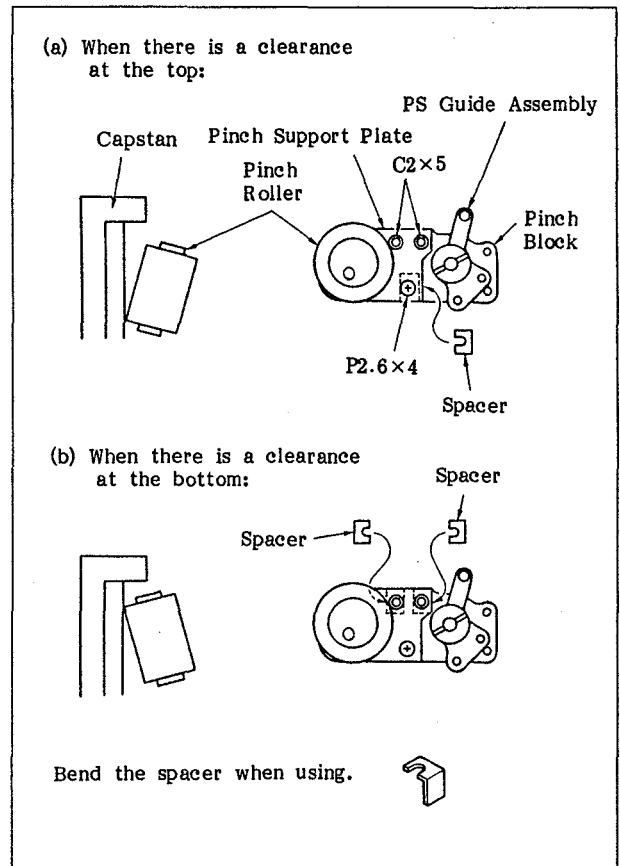

Fig. 6-92 Adjustment of the Tilting of the Pinch Roller
- g. Loosen the three set screws that hold the pinch support plate, shown in Figure 6-92. Insert spacer(s) of the appropriate thickness, shown in the following table, between the pinch support plate and the pinch block. Then tighten the three set screws.